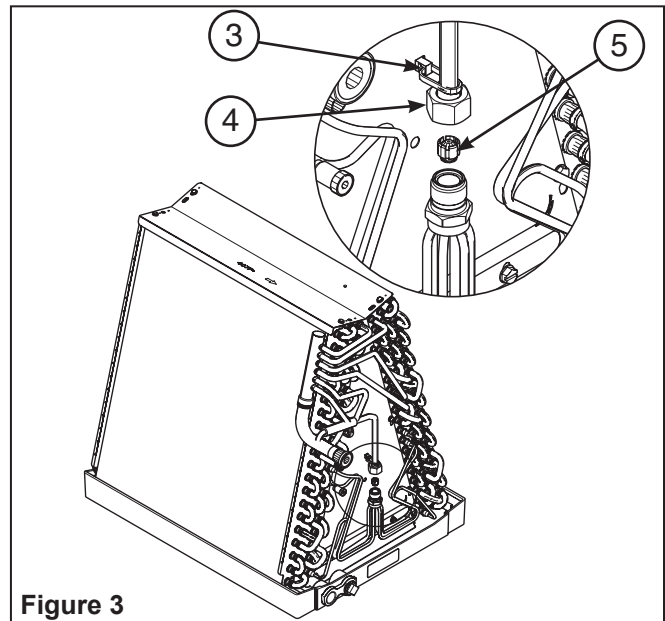

Figure 3
4. Using a back-up wrench, loosen the mechanical fittings between the liquid tube assembly and the distributor (Figure 3).
5. Using the orifice removal tool, remove the orifice piston from inside of the distributor (Figure 3). Discard the orifice piston.